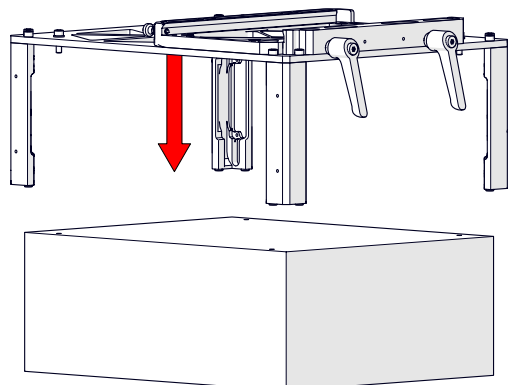

Fig. 90 - Slide onto 3rd party instrument
3. Slide the bottom half of the instrument box frame onto the 3rd party instrument (Fig. 90).